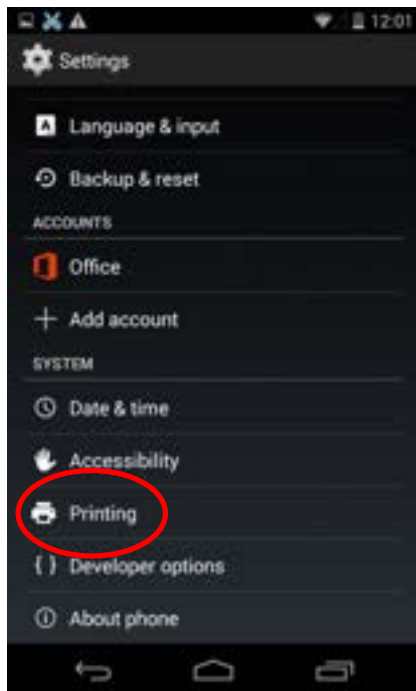

Figure 21
3.2 Find out “Printing” in “Settings” interface and enter into, as shown in Figure 21;